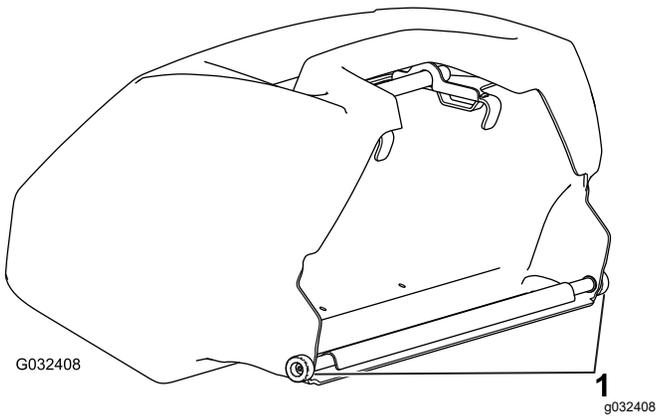

Figure 15
**Important:** If you ever drop the basket, examine the pitch-arm contact points near the lower lip of the basket for damage (Figure 15). Straighten them before using the basket.